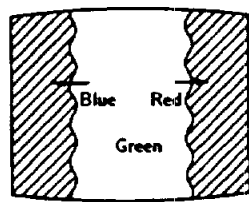

Fig. 3
4. Move the deflection yoke backward, and adjust with the purity control so that green is in the center and red and blue are at the sides evenly. (Fig.3)